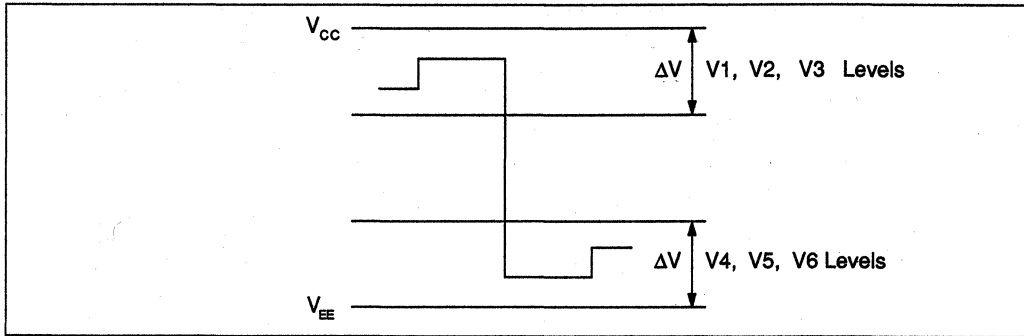

Figure 36 Driver Output Waveform and Voltage Levels
4. $\Delta V = 0.35 \times (V_{CC} - V_{EE})$. For levels V1, V2, and V3, the voltage employed should fall between the V_{CC} and the ΔV and for levels V4, V5, and V6, the voltage employed should fall between the V_{EE} and the ΔV (figure 36).
4. $\Delta V = 0.35 \times (V_{CC} - V_{EE})$. For levels V1, V2, and V3, the voltage employed should fall between the V_{CC} and the ΔV and for levels V4, V5, and V6, the voltage employed should fall between the V_{EE} and the ΔV (figure 36)